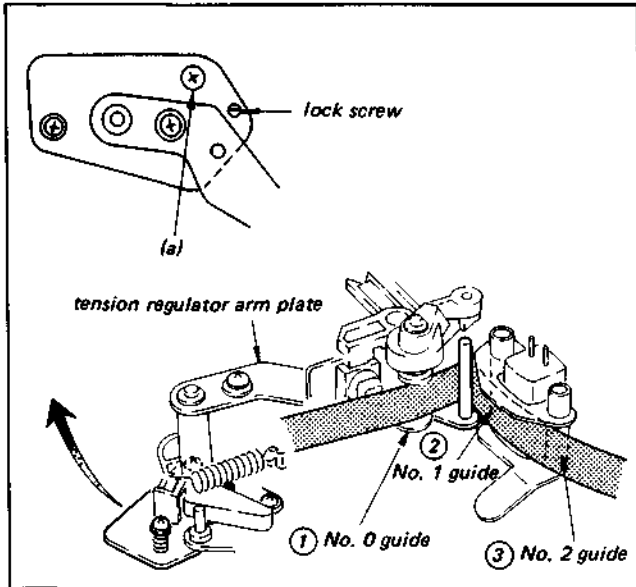

Fig. 3-9. Replacement and adjustment of tension regulator arm plate (1)
- 3) Play back the TRACKING segment of the alignment tape (KR5-1H or 2H). Loosen the lock screw and adjust screw "a" in Fig. 3-9 so that the RF waveform becomes flat (see the waveform in tape path adjustment, section 3-18-1) when the TRACKING knob is turned right and left from the center detent position, and so that the tape does not separate from the flanges of guides ①, ② and ③ shown in Fig. 3-9, and so that a large curl does not appear at the guides.